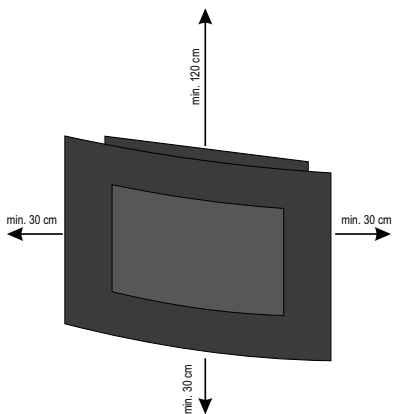

Figure 2 • 2.ábra • 2. obrázok • fig. 2. • 2. skica • 2. obrázek • Slika 2.
8. Never locate the unit directly in corners and observe the minimum locating distances indicated in Figure 2. Always observe the health and safety regulations valid in the country of use.